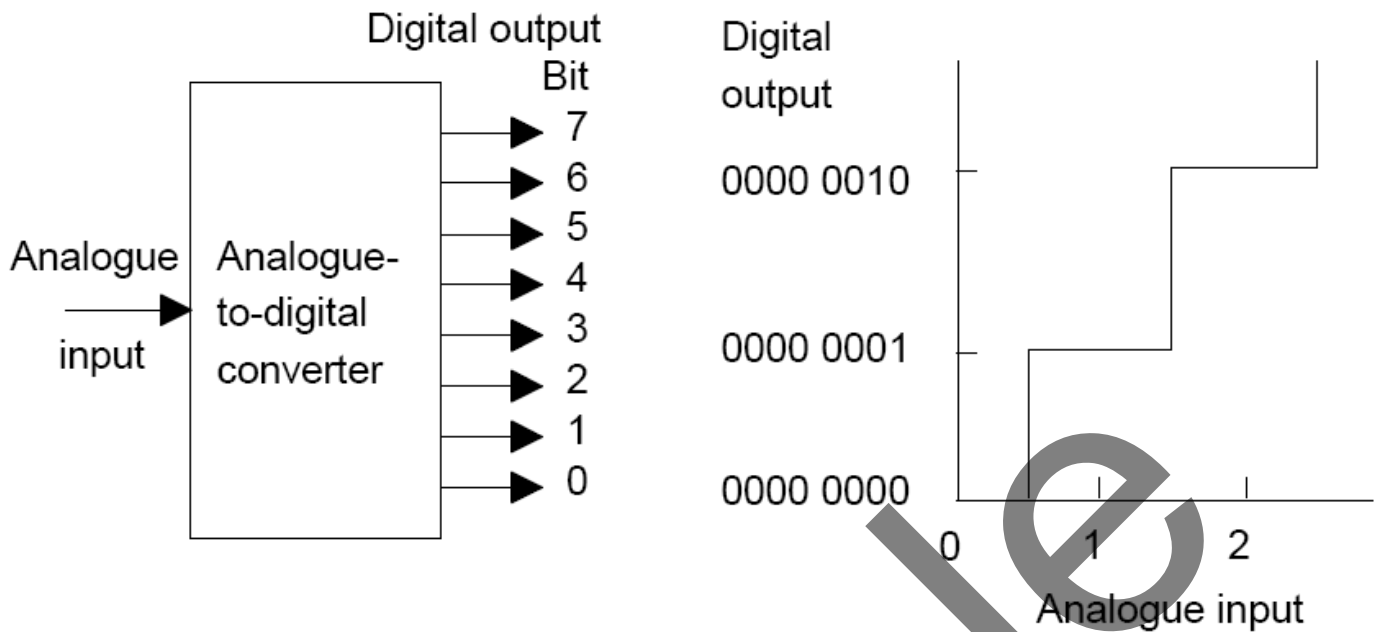

Figure 2: Analogue-to-digital conversion
Figure 2 shows an 8-bit ADC. The analogue signal is input to the ADC, which then converts the signal amplitude at each moment in time into a digital code. For an 8-bit ADC there are $2^8 = 256$ possible digital codes to represent the input signal. These will range from 00000000 (zero) to 11111111 (255).